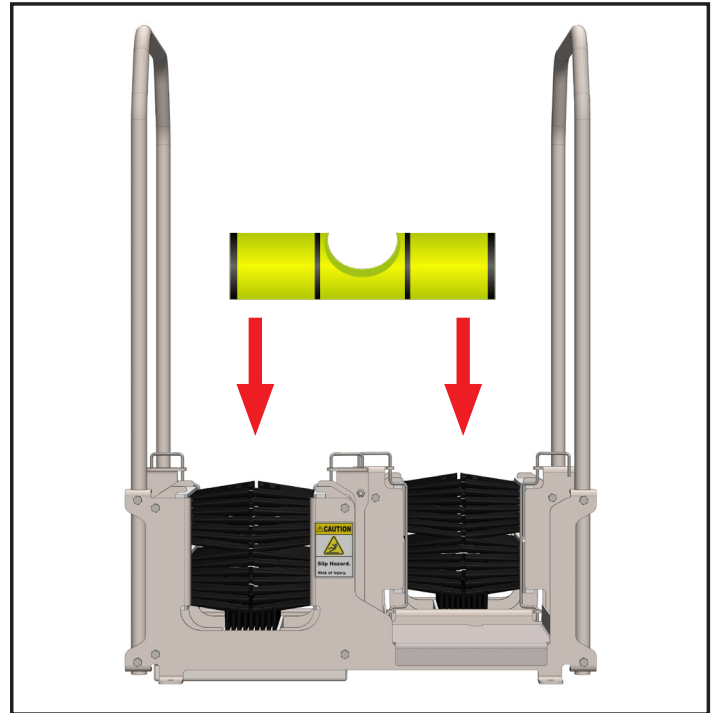

Fig. 3.1: Verify level of bootscrubber at each end
3. Once the unit is in the desired location, use a level to make sure the unit is stable and level in all directions [Figure 3.1]. Make sure the location is a flat surface.